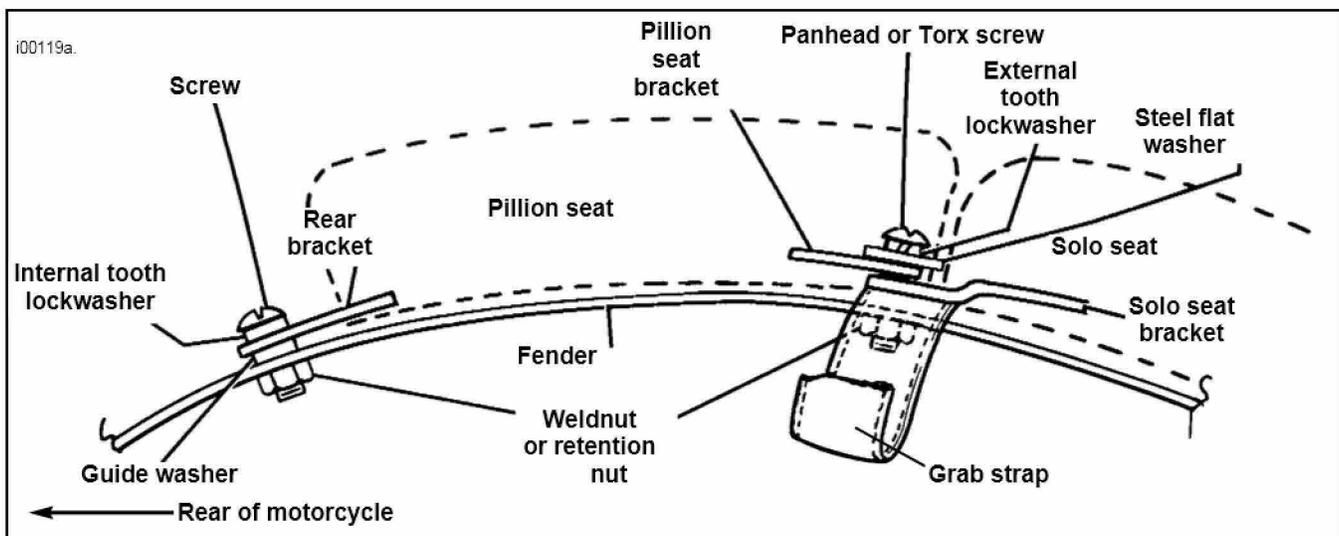
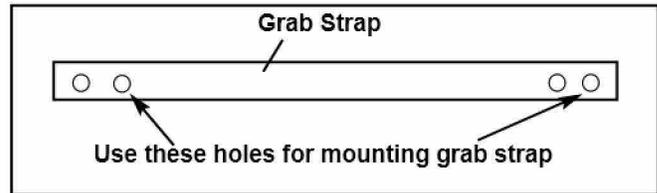

Figure 2. Hardware, Seat Bracket and Grab Strap Assembly
Figure 3. Grab Strap Holes
5. See Figure 2. Place the external tooth lockwasher and steel flat washer from kit onto screw (selected above) and insert screw through the solo seat rear mounting bracket and, with grab strap ends looped together, insert screw through one outside hole and one inside hole in grab strap (see Figure 3). Insert screw into hole in fender.
8. See Service Parts Illustration. Place retention nut (11) over cable strap (10) so wide end of nut rests on eye of cable strap. Thread cable strap up under fender and through fender hole. Pull up on cable strap to hold nut snug against underside of fender.
9. With rib on retention nut seated into notch in fender hole, slide retention washer (12) into place from the rear. This will lock the retention nut in place.
10. See Figure 2. Place the internal tooth lockwasher onto the screw which was removed from the top of the rear fender. Insert the screw through the rear bracket of the pillion seat and the guide washer and into the rear mounting hole weldnut or retention nut. Tighten the screw securely.